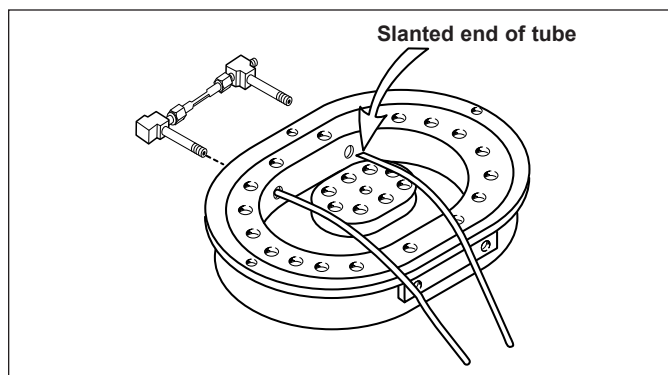

Figure 8. Installing Calibration Tubes
3. Insert the slanted end of the Calibration Tube into Steam Generator hole and push in fully (Figure 8).